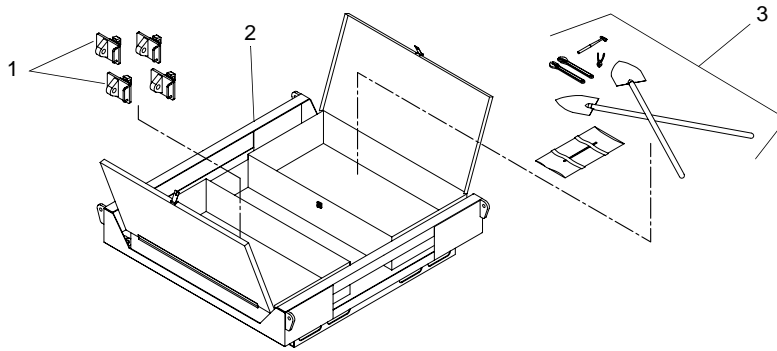

Figure 6. Storage Box Pallet
30. Remove horizontal deadman padeyes (figure 6, item 1) from storage box pallet (figure 6, item 2) and position them on the FC platform.
31. Remove ground tackle and tools (figure 6, item 3) from storage box pallet (figure 6, item 2) and position items on beach near anchors.